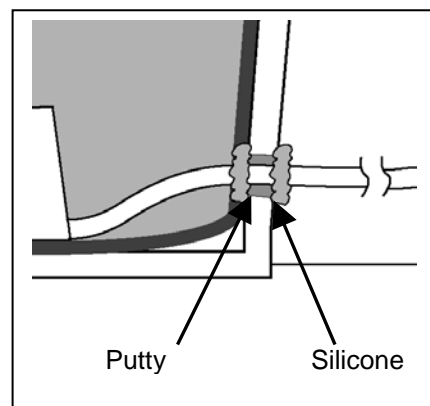

Fig. 8
8. Seal up the hole along with any other drainage holes in the container. Press plumber's putty into the hole and seal it with silicone caulk. Allow the sealant 24 hours to dry before filling the container with water. Fig. 8